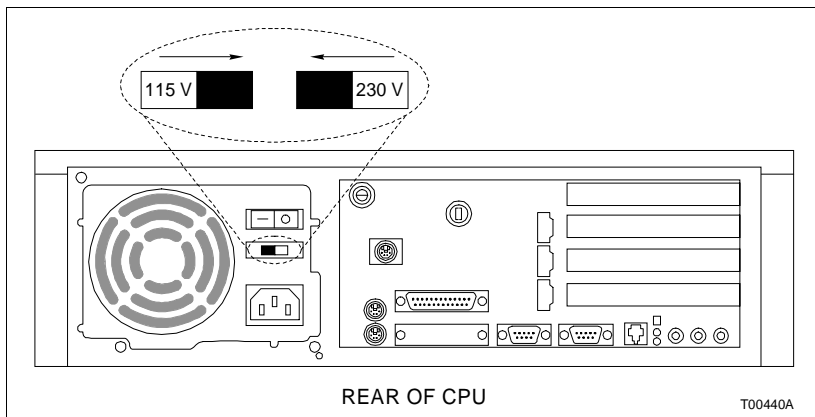
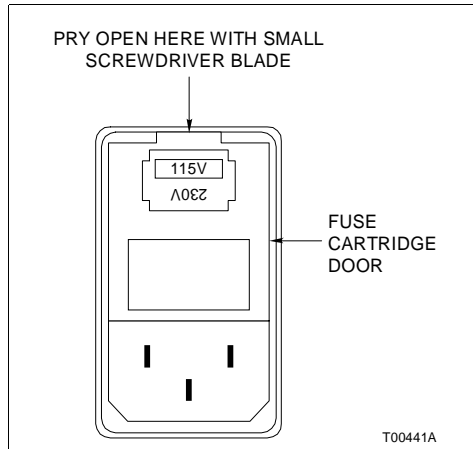

Figure PR24-3. C-I-SV43S-M, C-I-SV43S-T and C-I-SV43S-X Workstation CPU
Figure PR24-4. Lifting Mechanism Power Input Module
7. Verify that the voltage switch setting on the rear of the CPU for C-I-SV43S-M, C-I-SV43S-T and C-I-SV43S-X workstations (Fig. PR24-3) and the power input module for the lifting mechanism (Fig. PR24-4) on all workstations (if supplied) are set to the proper input voltage level.